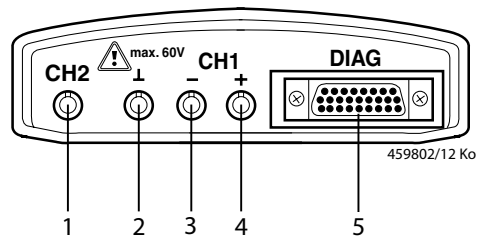

Fig. 1: Diagnosis terminals/Masurement terminals
- If no diagnosis cable is connected, a ground connection is to be made from the KTS modules before making any V-, R- or I-measurements (Fig. 1, Item 2) made connection to vehicle ground with the ground cable provided!